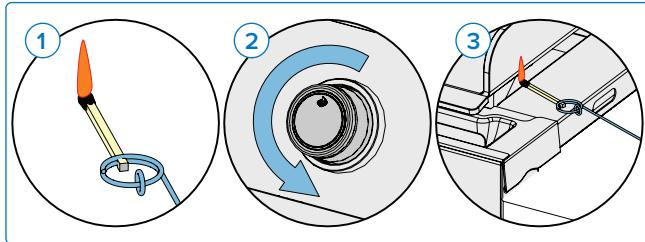

Fig. 7
3. While turning the corresponding burner knob to high. **(Fig. 7)**.